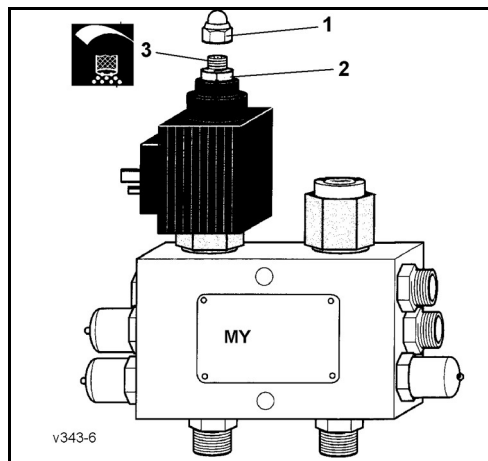
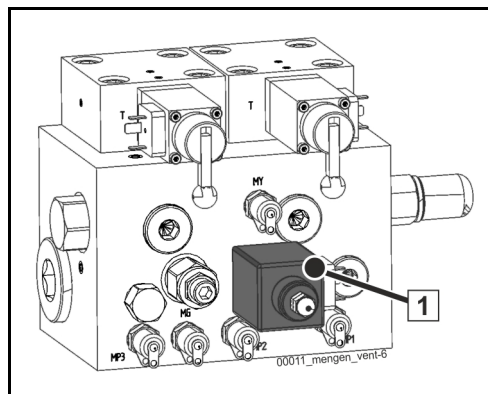

Fig. 224 Valve design 1
Fig. 225 Valve design 2
If the electrical system fails, however, it may be necessary to manually change the delivery rate (stroke rate) of your concrete pump on the hydraulic valve (**Fig. 224**), (**Fig. 225**).
1. Remove the cap nut (1) (**Fig. 224**),(**Fig. 225**).
2. Hold the screw spindle (3) with an Allen key and loosen the lock nut (2).
4. Configure the max. delivery rate (stroke rate) for the concrete pump on the "emergency-off block" for adjusting the delivery rate (**Fig. 224**)/(**Fig. 225**).